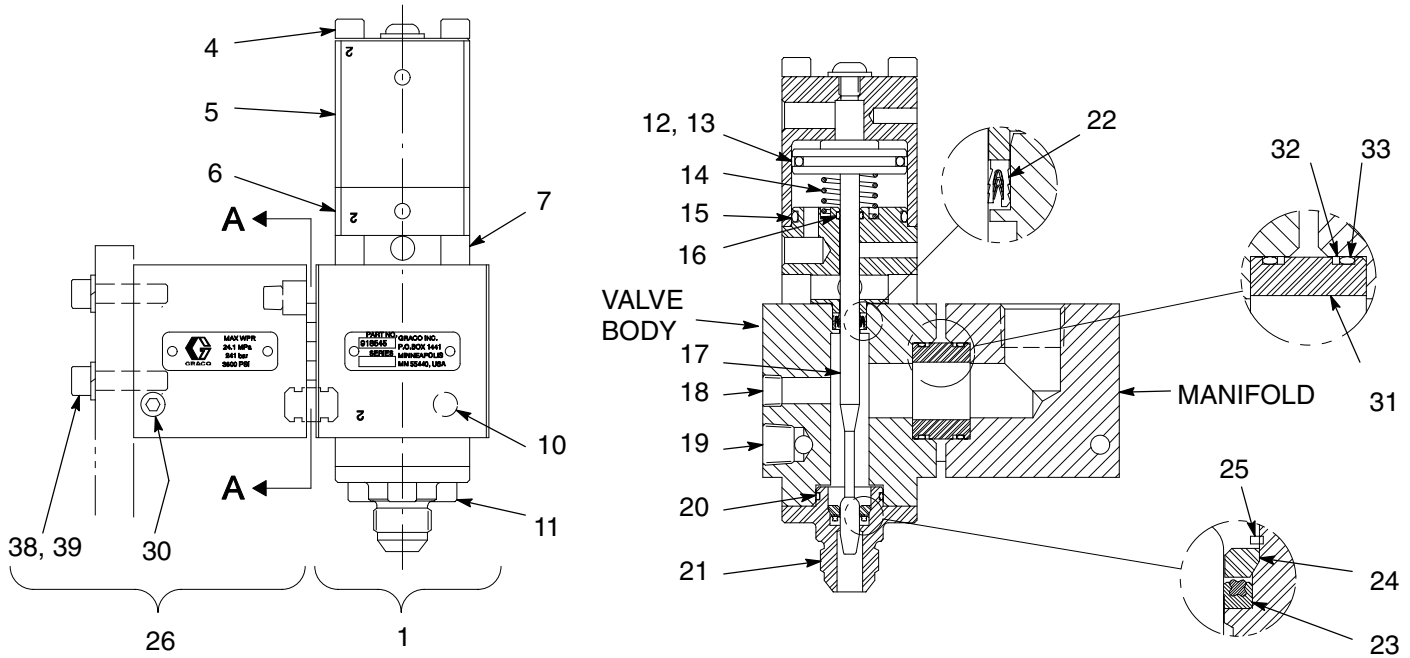

Fig. 14
See Fig. 14.
4. Reassemble cylinder cap (5) and cylinder base (6), as follows: See Fig. 14.
- a. Lubricate o-ring (12) and piston ring (13).
- b. Insert o-ring (12) into piston needle (17) groove.
- c. Slide piston ring (13) on top of o-ring (12).
- d. Lubricate, then replace o-rings (15) and (16).
- e. Insert piston/needle (17) into cylinder cap (5).
- f. Slide cylinder base (6) over the piston needle (17) into the cylinder cap (5). Seat spring (14) in groove on cylinder base .
5. Put spacers (7) between cylinder base (6) and valve body .
6. Secure cylinder cap (5) and cylinder base (6) to the valve body, using four socket head screws (4).